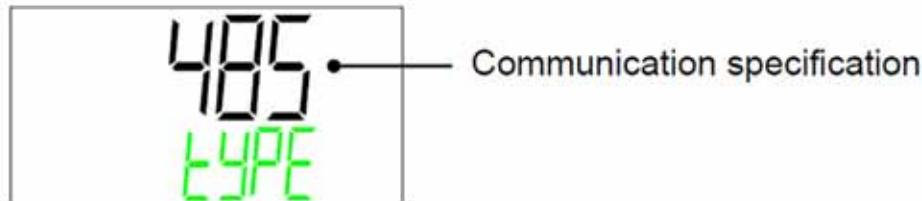

Figure 4-10. Communication Specification
3. Press the down arrow [**▼**] key twice to reach the communication specification setting screen, press [ENT]. See Figure 4-10.